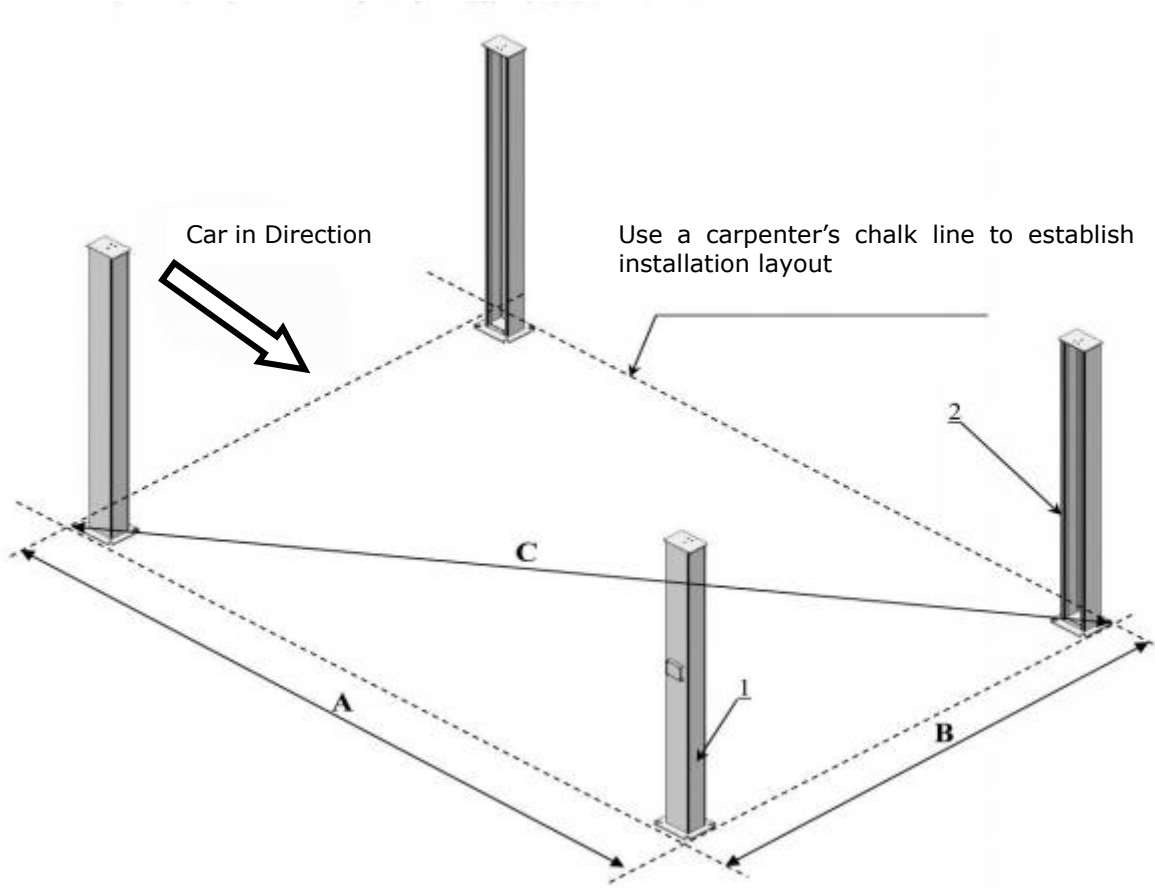

Fig. 13
C. Use a carpenter's chalk line to establish installation layout make sure the size is right and base is flat (see Fig. 13). Note: Reserve space before and behind the installation site.